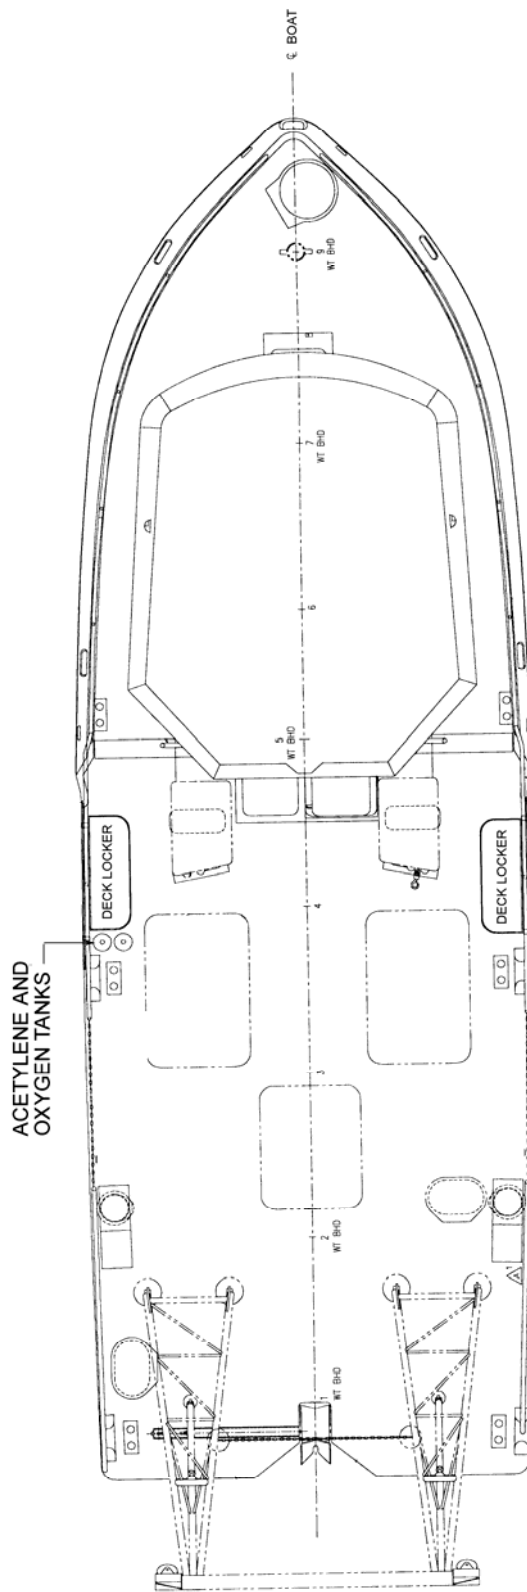

Figure 2-24
E.19. Location Deck lockers are installed port and starboard on the main deck, approximately at bulkhead 4; forward end of the buoy deck. (See figure 2-24.)